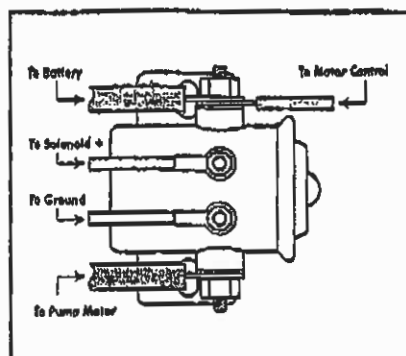

Figure 6b
2. Check battery to pump motor solenoid cable connection and motor control power supply connection. (Fig. 6b)